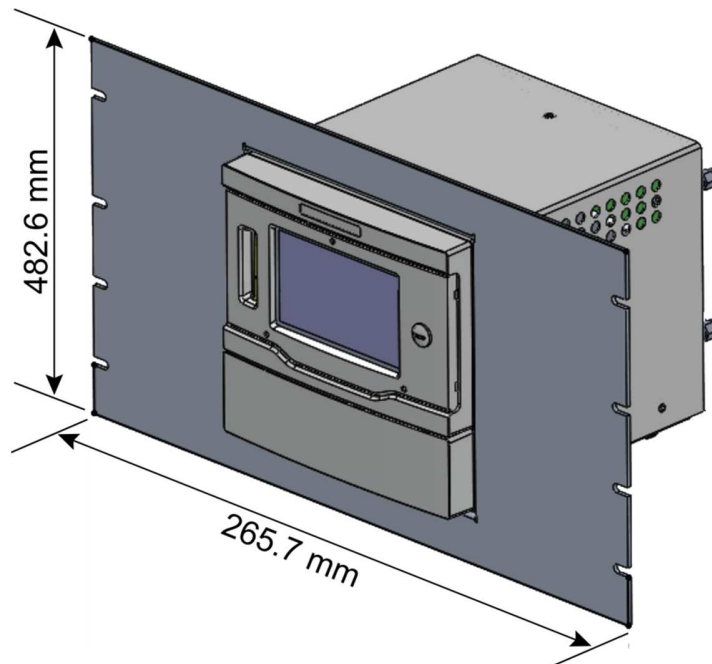

Figure 3-3: Panel installation
Make sure that an additional support is provided under the base of the analyzer towards the rear of the enclosure (**Figure 3-3**). Do not support the analyzer by the side mounting brackets alone.
1. Refer to **Figure 3-3**. Prepare a cut-out in a suitable panel.